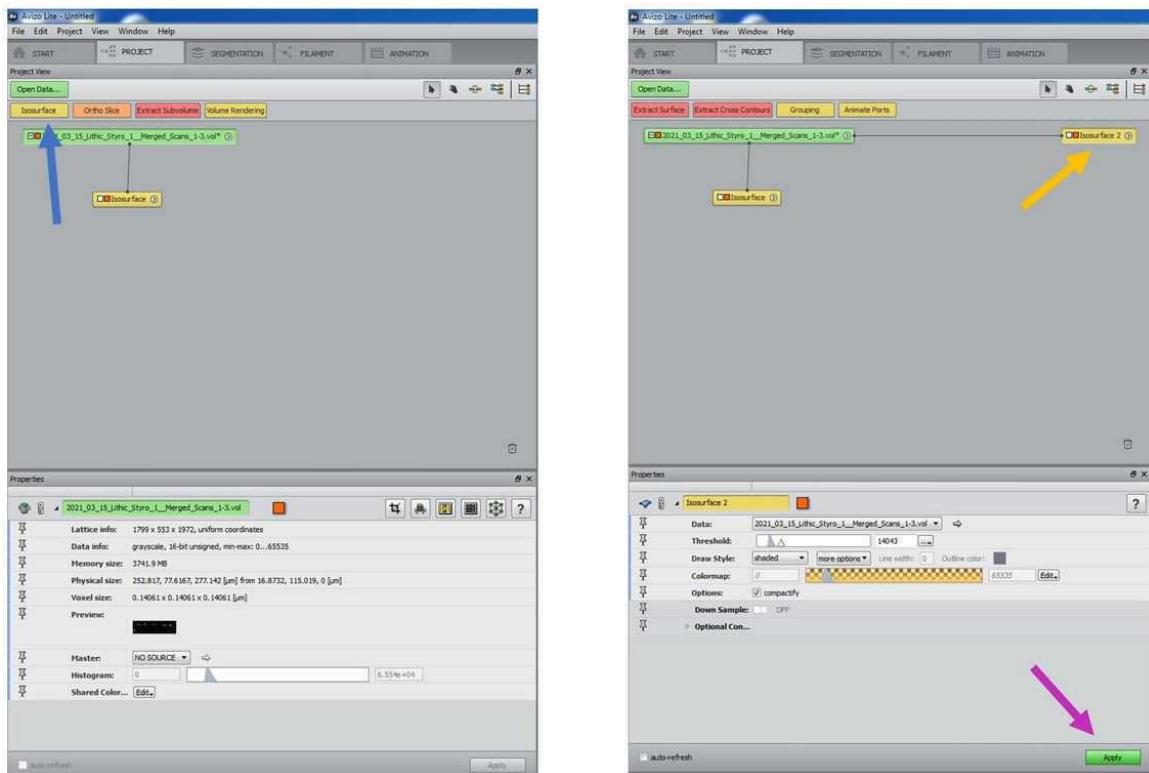

Fig. 17 (left) and 18 (right): Generation of cropped isosurface label.
- 23.1** Click on vol file label and then on the ‘Isosurface’ button (blue arrow in Fig. 17) that appears